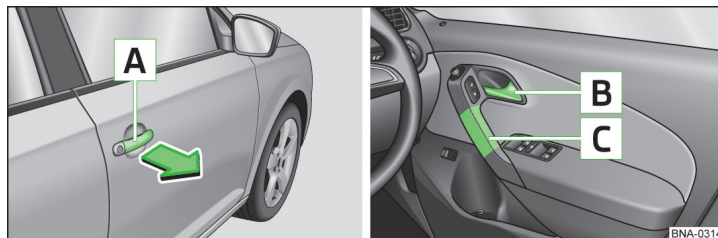

Fig. 23 Door handle/door opening lever:
- To **open from the outside**, unlock the vehicle and pull the door handle  in the direction of arrow » fig. 23.